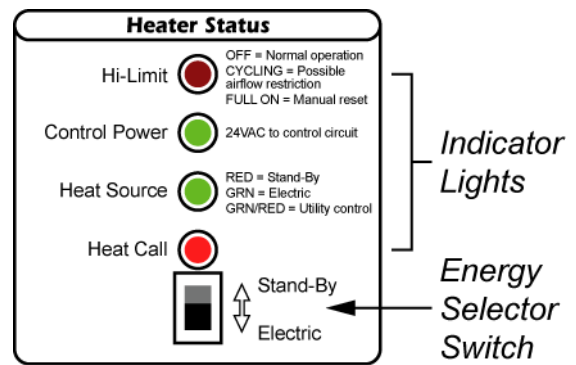

Figure 11
2. **Front panel stand-by/ electric switch** – (figure 11) allows the user to condition the system to select an energy source. This can be used for repair or troubleshooting of the furnace or simply “Power of Choice” selection.
4. **DECII module indicators** (figure 11)